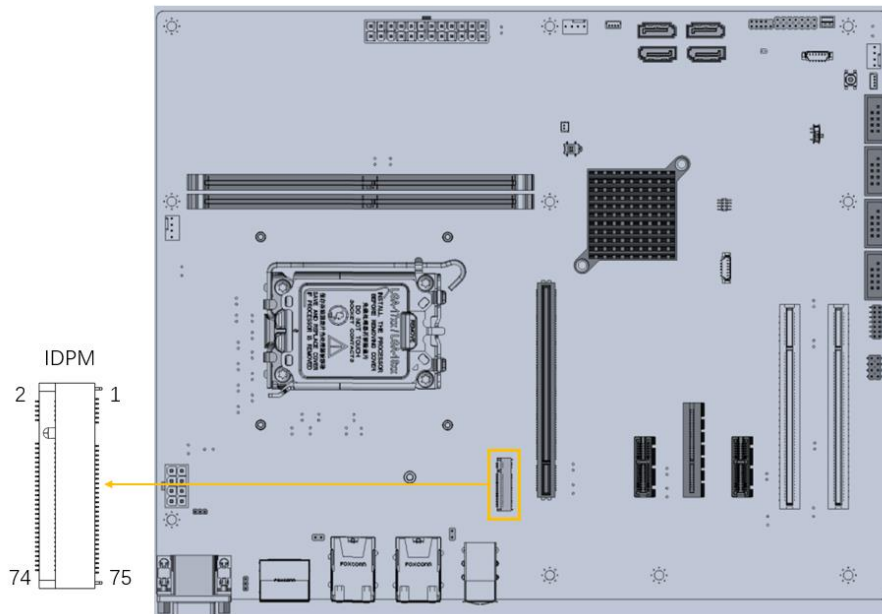

Figure 3-27: IEI iDPM Slot Location
- CN Location:** See **Figure 3-27**